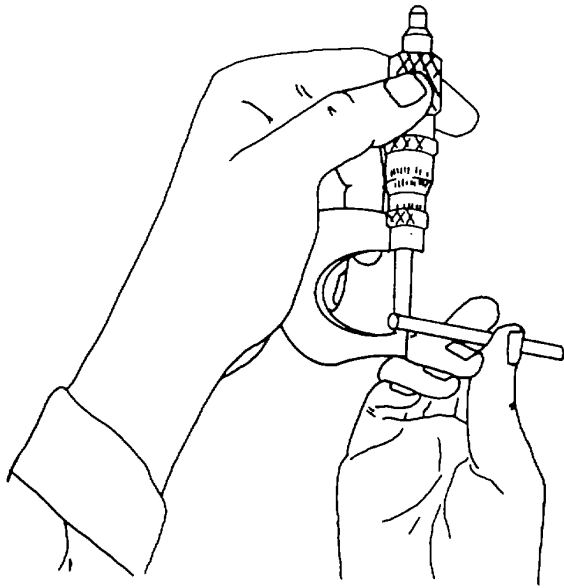

Figure 3-39. Using Outside Micrometer
(1) *Outside micrometer*. As shown in figure 3-39, the micrometer is held in one hand and the stock in the other. The thimble is turned until the anvil and spindle just touch the stock. The micrometer is then read for an accurate measurement.